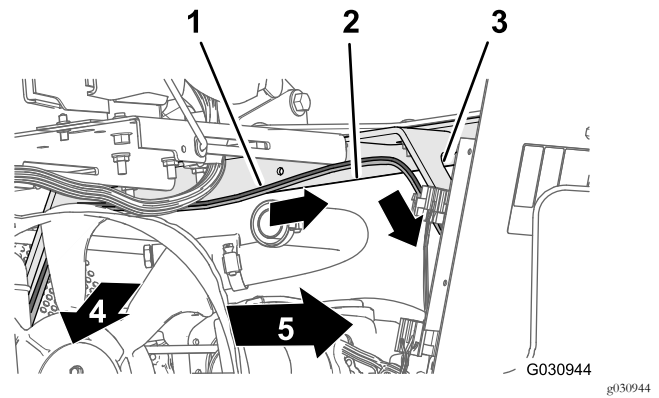

Figure 137
2. Route the 165 cm (65 inches) branch of the wire harness across the seat-box angle and down along the left support for the engine shroud (Figure 137).